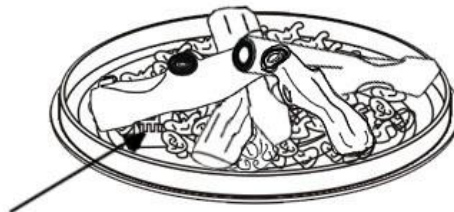

Figure 10
3. Remove any lava rock from the ignition well as shown in Fig. 10.